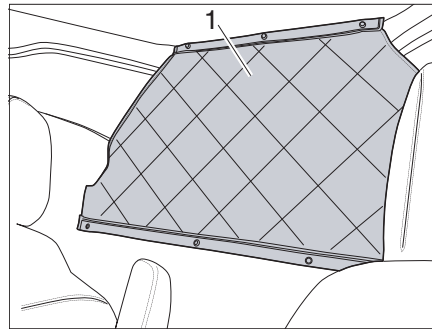

Fig. 15 Rolling up the access cover
- Open the entrance cover (Fig. 15,1) and roll it up.